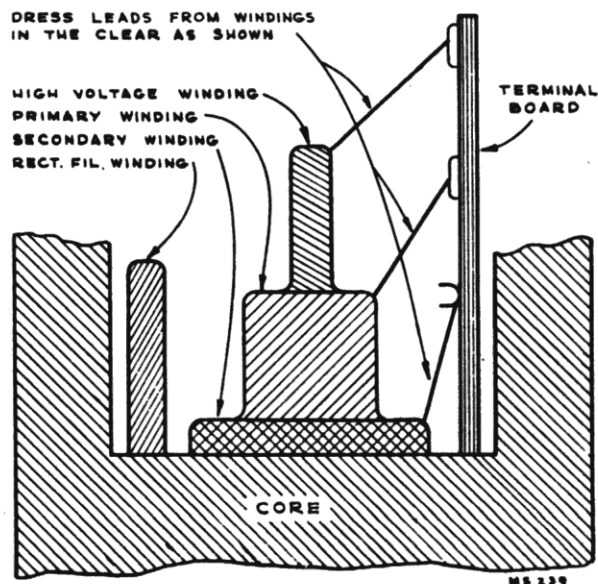

Figure 81—T109 Lead Dress
6. Dress T109 winding leads as shown in Figure 81.